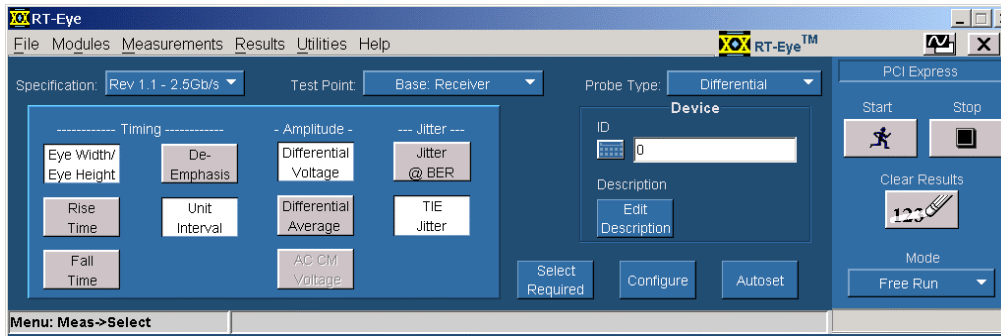

Figure 23: Measurements Select menu setup
3. In the Measurement Select menu (Figure 23), choose Single-Ended (for probe configuration C defined in Section 3) or Differential (for probe configurations D defined in Section 3) as the **Probe Type**.